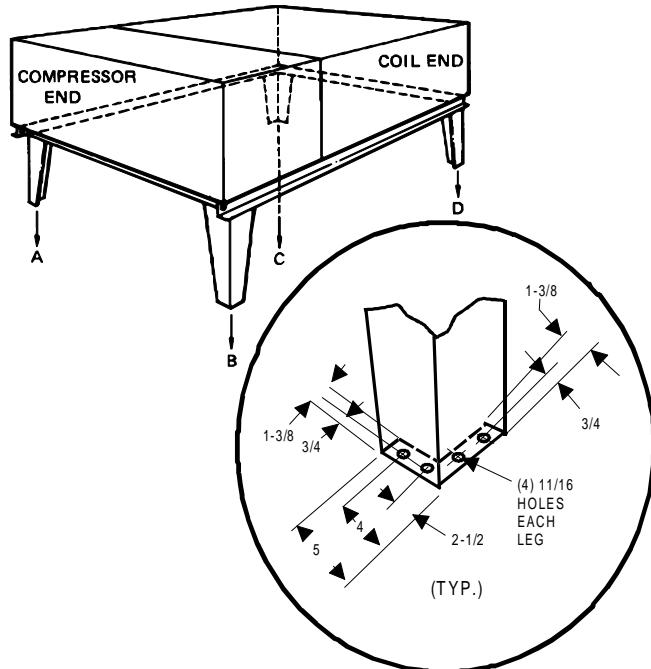

FIG. 1 - LOCATION OF BOLT HOLES AND WEIGHT DISTRIBUTION
A minimum of two (2) beams are required to support each unit. The beams should: (1) Be positioned perpendicular to the roof joists. (2) Extend beyond the dimensions of the section to distribute the load on the roof. (3) Be capable of adequately supporting the concentrated loads at the corner legs. See Figure 1.
Ground level units can also be supported by concrete piers. These piers should (1) extend below the frost line, (2) be located under each of the section's four corner legs, and (3) be sized to carry the load of the corner leg it supports. See Figure 1.
Holes are provided in the supporting legs for bolting the unit to its foundation. See Figure 1 for the location and dimensions of these bolt holes.